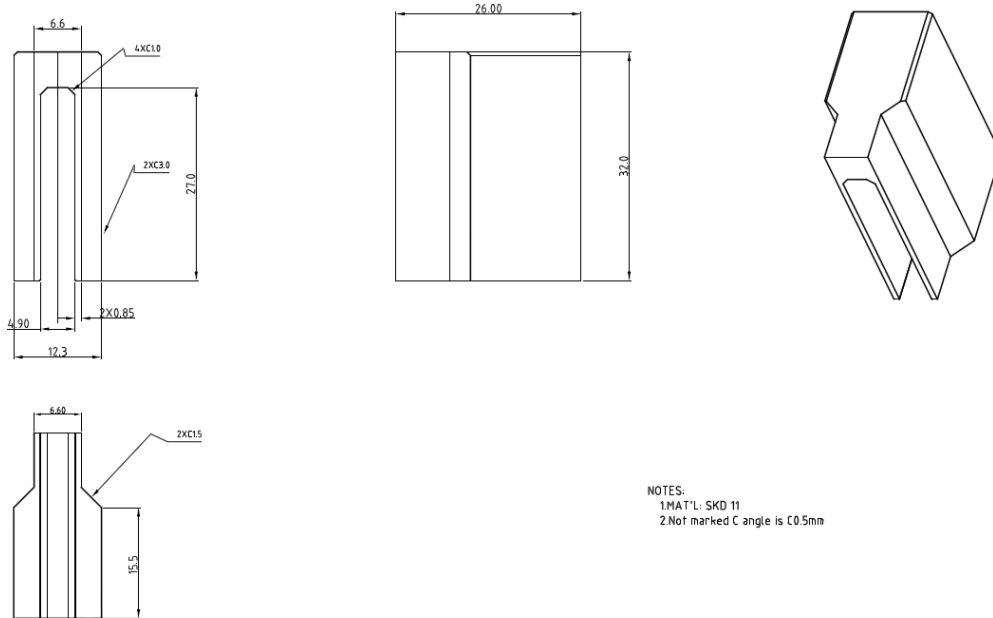

Figure 8: Orthogonal MINI Cool edge connector 1X2 application tools drawing
The application tools recommended drawing for 56pin 1X2 Orthogonal MINI cool edge connector (Pitch 12.5mm) are shown in Figure 8.
- Visually assure that the plastic standoffs on the bottom of each assembly are seated within 0.10 mm of flush to the PCB but not crushed (see Figure 8). A larger gap beneath the standoffs may indicate that the connector is not seated fully or is not seated parallel to the board. This can cause misalignment when the PCB is mated to the SSD card.